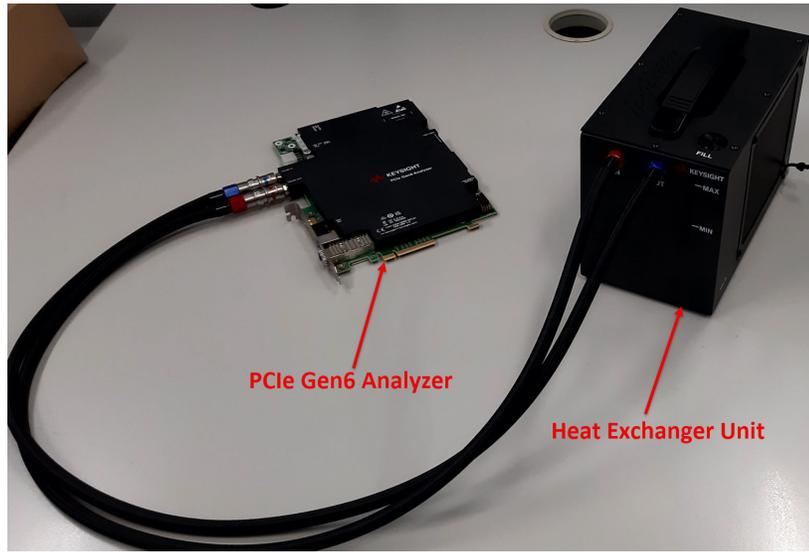

Figure 10 Connecting heat exchanger to the Analyzer module
- 1 Connect the empty heat exchanger to the Analyzer module as shown in Figure 10. Please keep the heat exchanger tank opening on top of the device closed while connecting the hoses to the module.